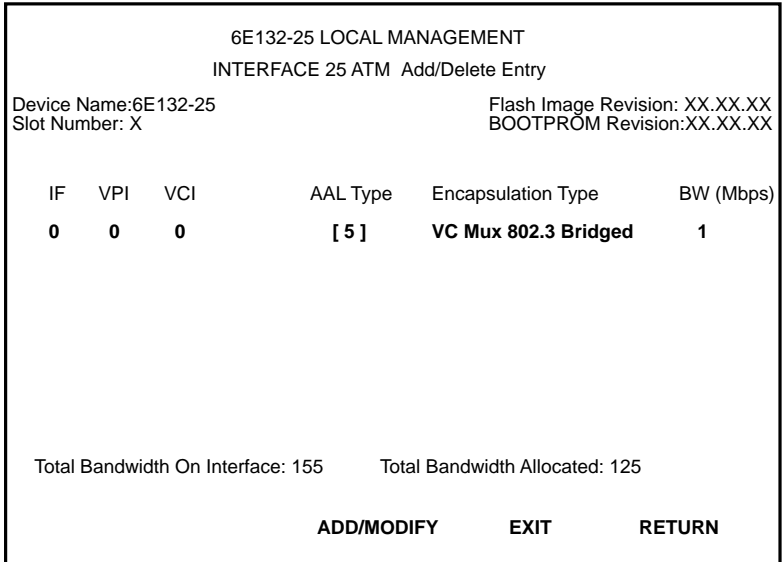

Figure 3-19 The Add/Delete Entry Screen
2. Press ENTER, the Add/Delete Entry screen, **Figure 3-19**, displays.